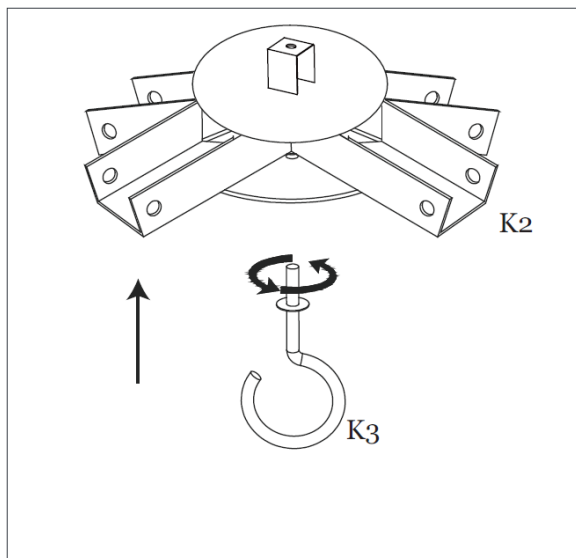

Figure 7-1
Step 7A: Attach Roof Vent Hook (K3) to Roof Vent Connector (K2). See Figure 7-1.